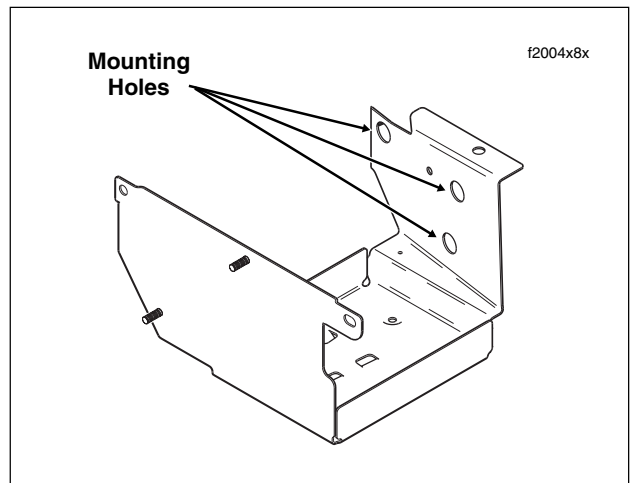

Figure 8-132. Battery Box (Right Side View)
1. Install grommets into holes on left side of battery box with the larger OD on the outboard side. See Figure 8-132.